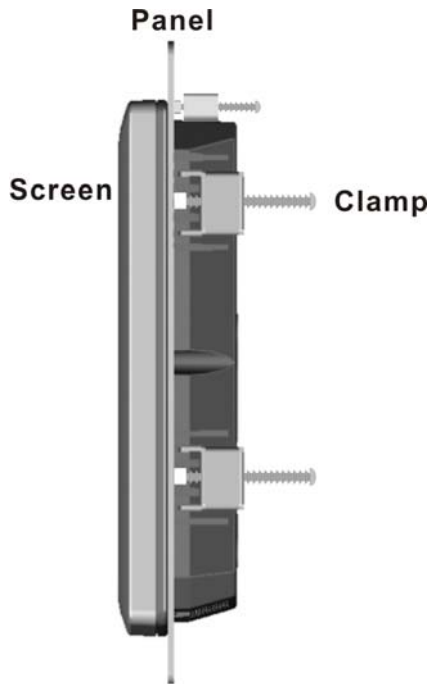

Figure 3-16: Tighten the Panel Mounting Clamp Screws
Step 5: Tighten the screws that pass through the panel mounting clamps until the plastic caps at the front of all the screws are firmly secured to the panel (**Figure 3-16**).